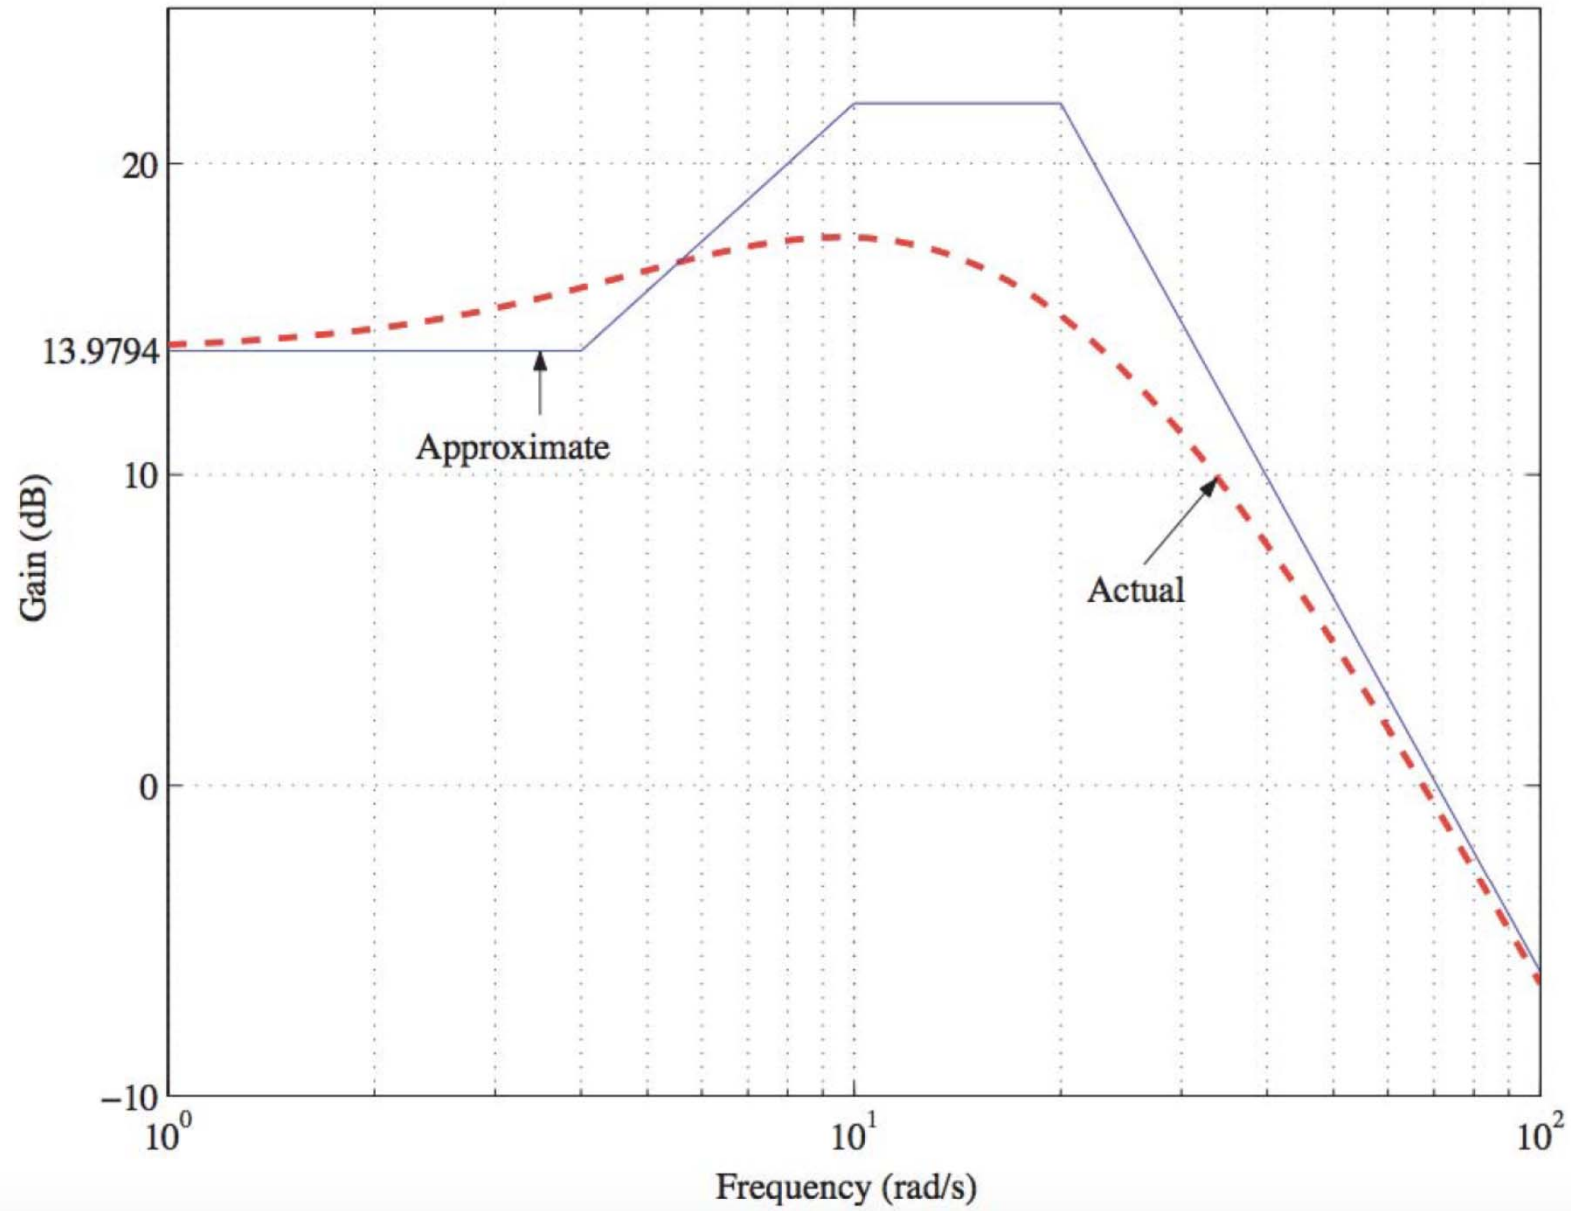

Figure 6: Magnitude response
6. Figure 6 shows the magnitude plot of  $G(s) = \frac{K(s + \alpha)}{(s + \beta)(s + \eta)(s + \lambda)}$